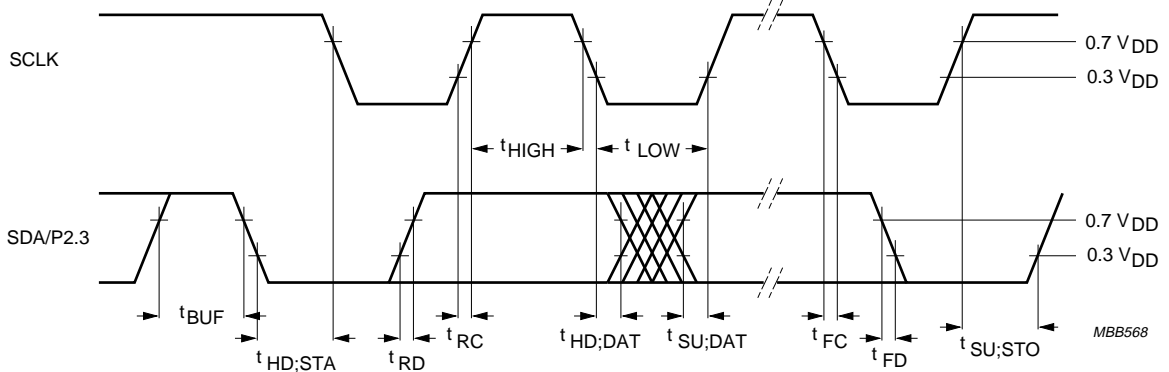

Fig.15 Slave SCLK receiver SDA/P2.3 timing (SCLK and SDA/P2.3 are inputs).
**Table 2** I2C-bus timing (see Figs 15 and 16)
| SYMBOL       | PARAMETER                  | INPUT(see Fig.14)      | OUTPUT(see Fig.15; note 1)              |